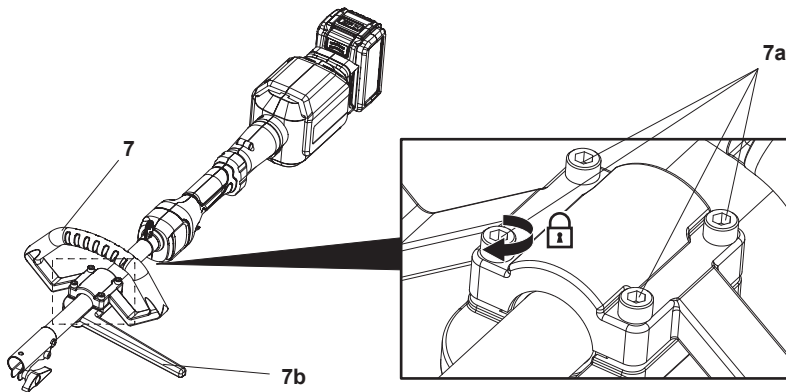

Fig. 3
The auxiliary handle (7) is pre-mounted on the pole of motor unit. Check that the auxiliary handle (7) is securely tightened and the barrier (7b) is pre-fixed on the user side. If not, reassemble it and tighten the four mounting bolts (7 a) with a suitable hex key (not supplied) (Fig. 3).